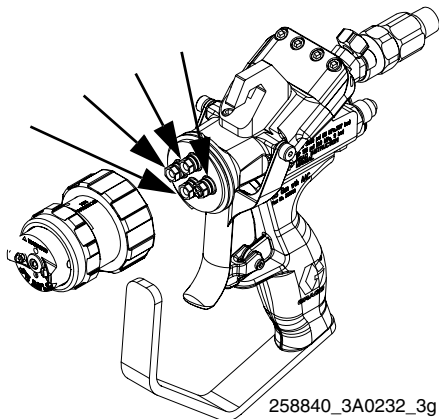

FIG. 13: Check Valve Housings
2. Remove front end of gun by loosening locking ring (C).
4. Inspect o-rings on check valve housings. Replace as needed. See FIG. 13.